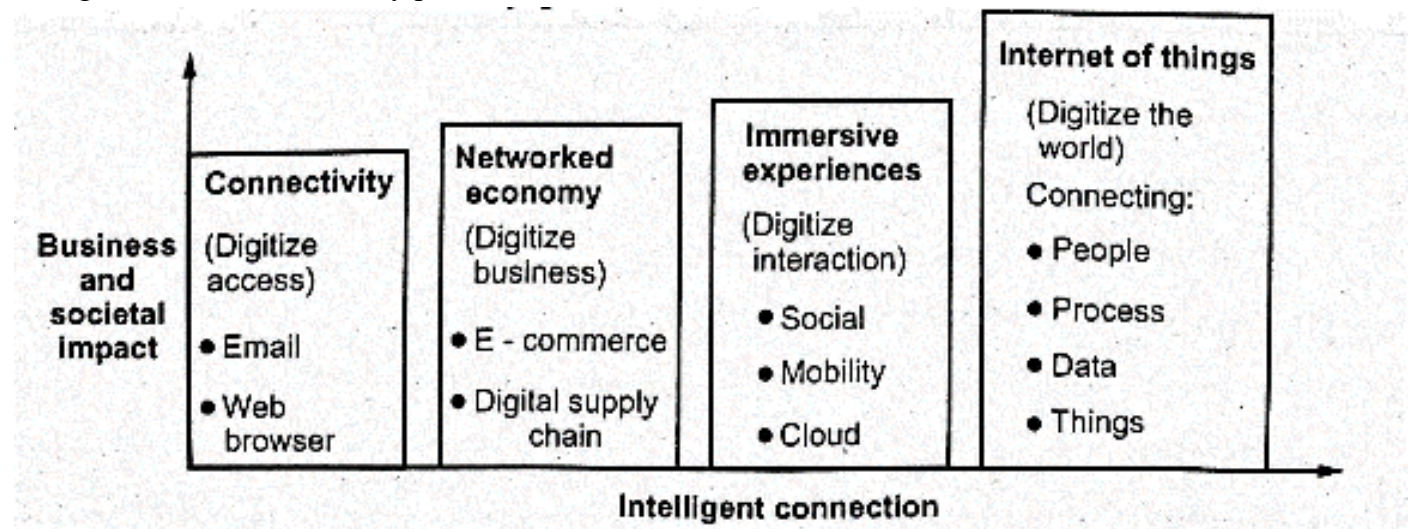

Figure 1.1 Evolutionary phase of internet
- Fig. 1.1 shows evolutionary phase of internet.